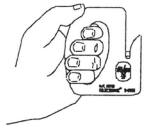

Figure 1
1. Grasp the Miltex Edge™ in left hand with curved edge resting firmly against palm. (for better control, we recommend the Miltex Edge™ to be held firmly on a flat surface, i.e. a table) *Figure 1*